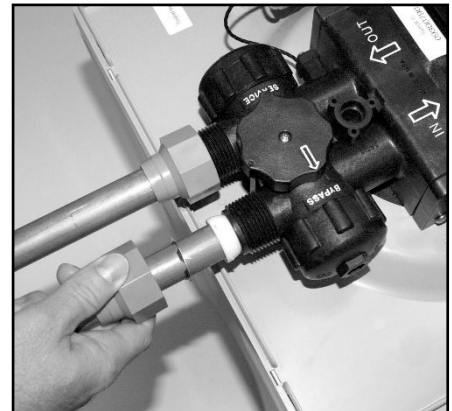

Figure 2: Connect Water Lines.
- C. Attach the water lines to the appliance in compliance with all state and local, building, plumbing, and electrical codes. (See Figure 2) Do NOT overtighten the connections on the plastic threads.